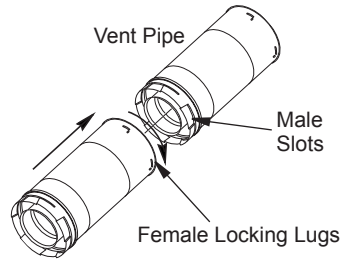

Figure 12 - Vent Pipe Connections
Twist-lock Procedure: The female ends of pipes and fittings have 4 locking lugs (indentations). These lugs will slide straight into matching slots on the male ends of adjacent pipes and fittings. Push pipe sections together and twist one section clockwise approximately one-quarter turn until the sections are fully locked (see Figure 12). *Note: Horizontal runs of vent must be supported every 3 feet. Use wall straps for this purpose.*
2. Assemble desired lengths of pipe and elbows necessary to reach from the burner system flue up through the firestop. Be sure all pipe and elbow connections are fully twist-locked (see Figure 12, page 11).